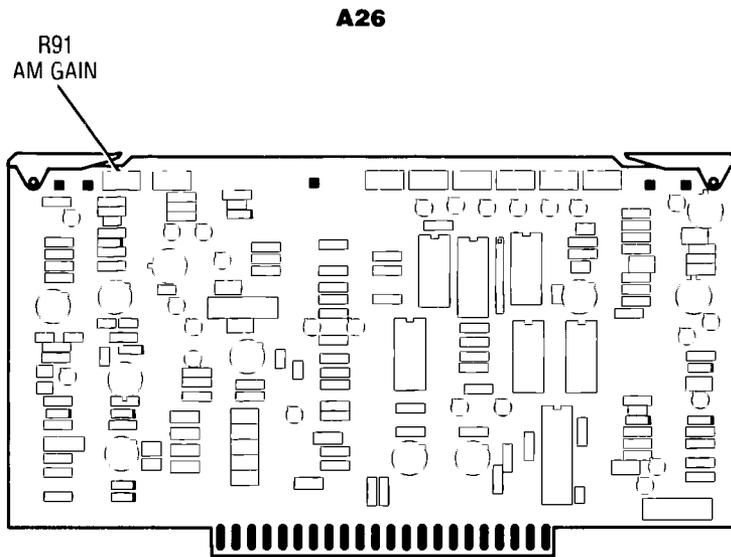

Figure 5-51. A26 Linear Modulator Component Location Diagram
- 32 Adjust the power supply for +0.3 Vdc. The power meter indication should be between 2.18 to 2.38 dB. If the indication is not in this range, adjust A26R91 (AM GAIN, Figure 5-51) for a power meter indication within the given range.